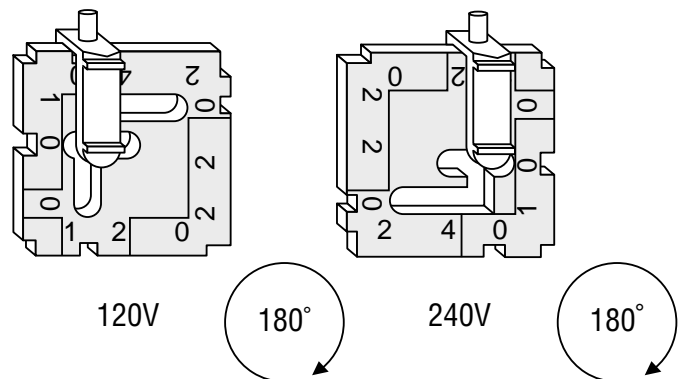

Figure 6.2
5. Position the plastic voltage selector for the appropriate voltage as indicated in Figure 6.2.